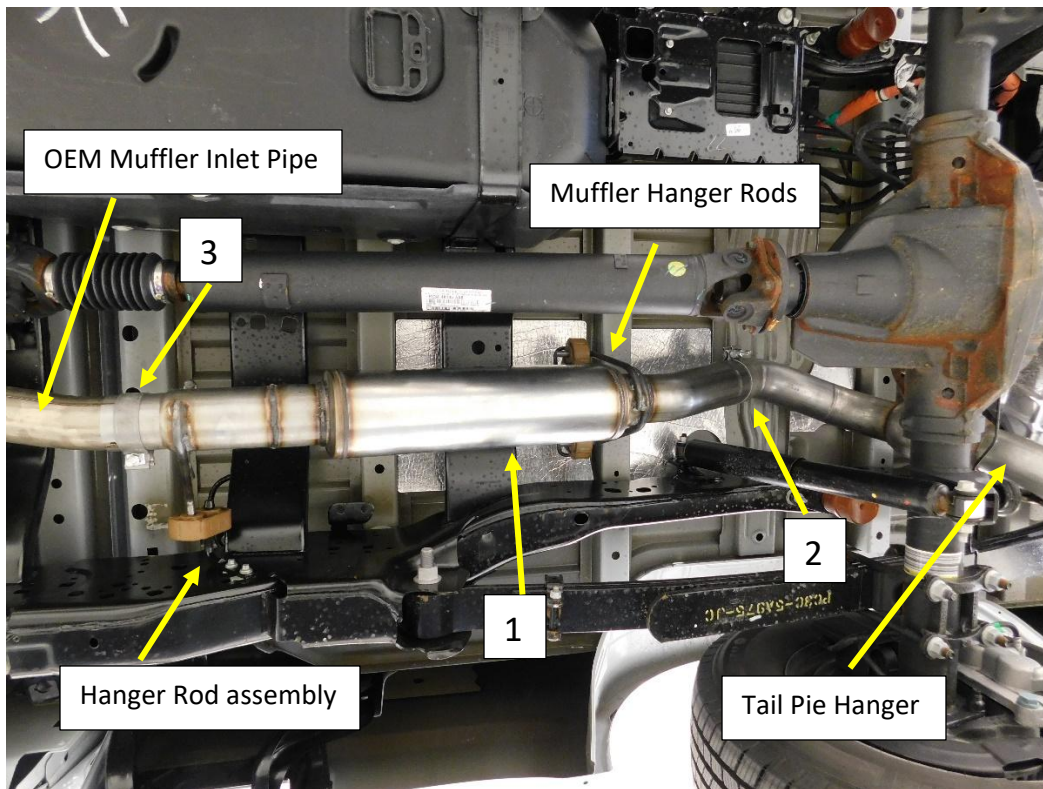

Figure. 3
1. Install the Supplied 3.0" band clamp **(3)** onto the reduced and notched inlet end of the Flowmaster Direct Fit Muffler assembly **(1)**. **Fig.3**